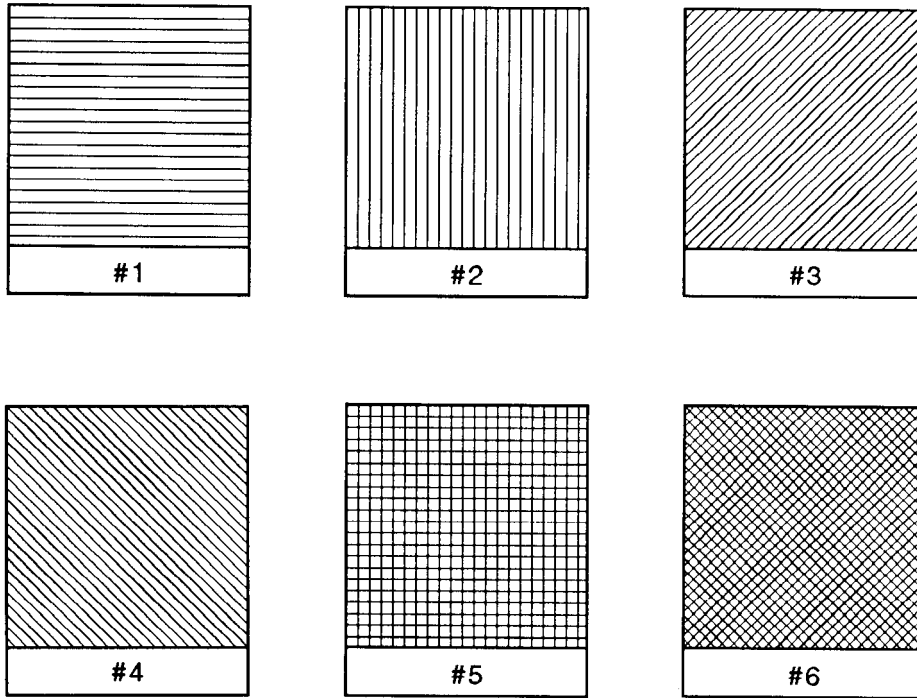

Figure 148. Patterns for Fill Type 21
- For Type 21, the *option1* parameter selects one of the six predefined cross-hatch patterns using a value between 1 and 6 (see Figure 148).